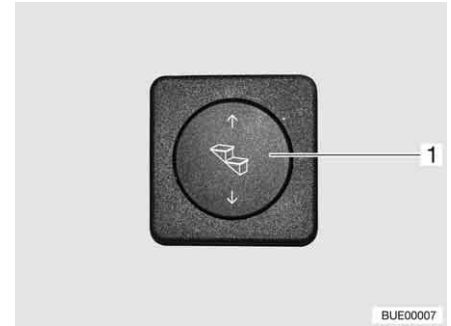

Fig. 12 Operating button for entrance step
- Press the rocker button (Fig. 12,1) down and hold it pressed (at least 3 seconds) until the entrance step has extended completely.
- Press the rocker button (Fig. 12,1) up until the entrance step has retracted completely.